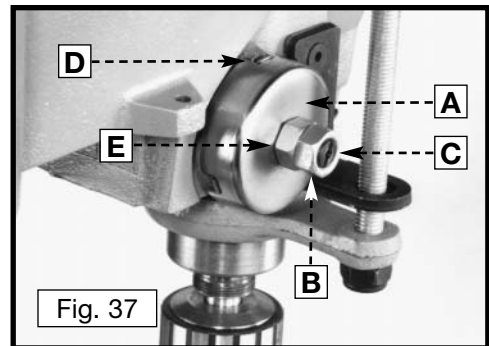

Fig. 37
1. Loosen the nuts (B) and (E) Fig. 37, but do not remove. Make sure that the spring housing (A) remains engaged with head casting (C).
2. While firmly holding the spring housing (A) Fig. 37, pull out the housing and rotate it (counter-clockwise to increase or clockwise to decrease the spring tension) until the boss (D) is engaged with the next notch on the housing. Tighten the two nuts (B) Fig. 37 to hold the housing in place.